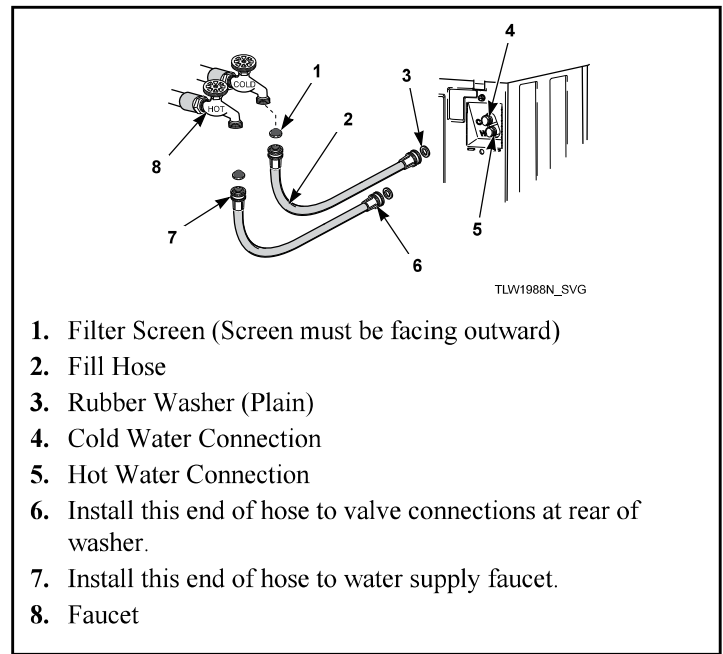

Figure 4
2. Install them into each end of the fill hoses as shown in *Figure 4*. The screen must be facing outward.
5. Screw hose couplings from other end of hoses onto the water mixing valve until they are finger-tight. Make sure the red color-coded hose from the hot water faucet goes to the water mixing valve marked "H" and the blue color-coded hose from the cold faucet goes to the valve marked "C". Refer to *Figure 4*.